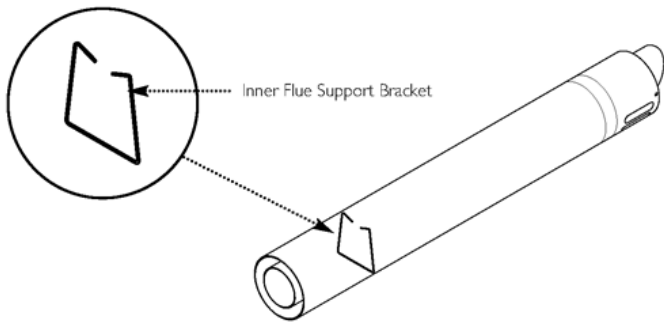

Fig. 27a
**NOTE: When cutting ensure the cut does not interfere with the inner flue support bracket (Fig. 27a).**